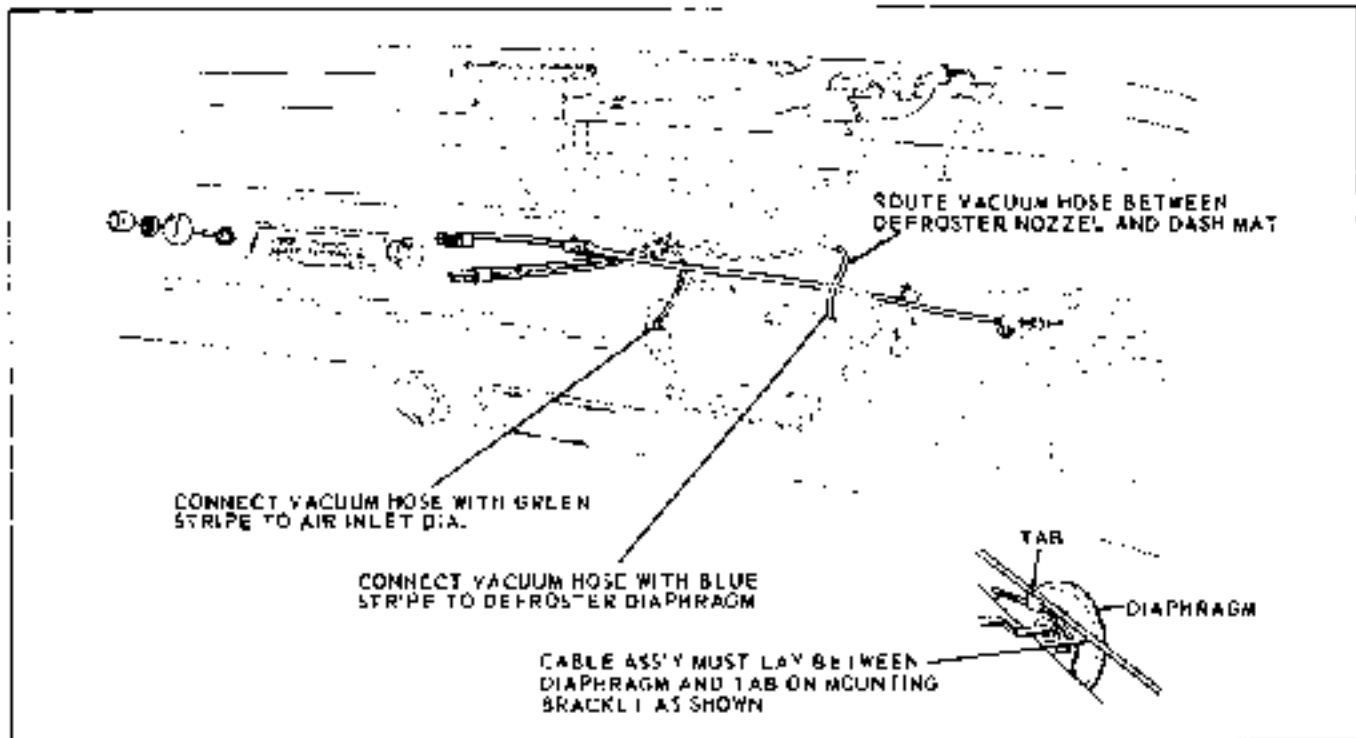

Fig. 1-1 Passenger Compartment Defogger—Pontiac
3. Adjust turnbuckle until cam roller bottoms at end of heater cam slot (Fig. 1-1).
1. Pull off control knobs from panel and remove bezels from left and right switches (Fig. 1-1).
BLOWER MOTOR RESISTOR—ALL REMOVE AND REPLACE (Fig. 1-1) TYPICAL
1. Disconnect temperature control cable at top of heater (Fig. 1-1).